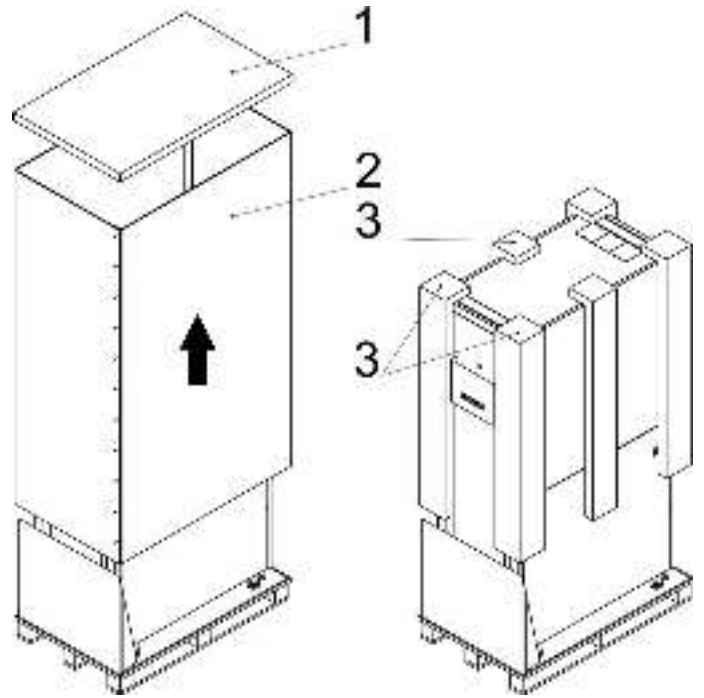

Figure 2-10
2. Please follow the order in Figure 2-10 to remove carton and foams.